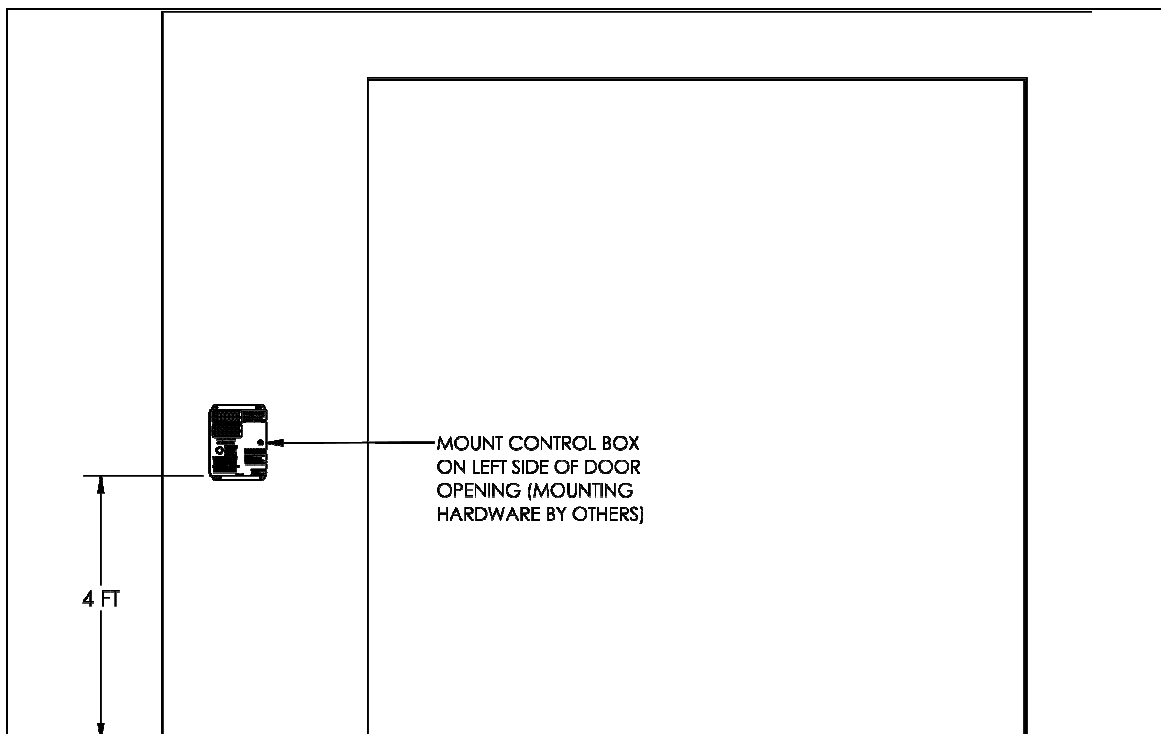

Figure 7: Control Panel Location
1. Mount the Dok-Chock™ control box inside the building, to the left of the doorway, 4 ft. above the floor. Refer to Figure 7 below.